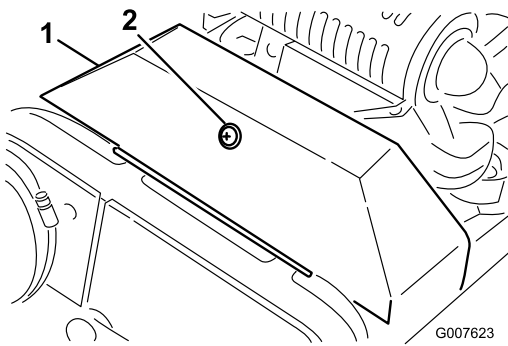

Figure 38
2. Loosen the retainer securing the V-belt cover and pivot the cover open (Figure 38).